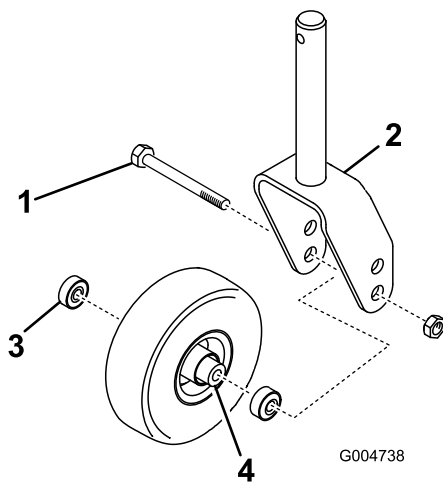

Figure 28
1. Remove the locknut from the bolt holding the castor wheel assembly between the castor fork (Figure 28). Grasp the castor wheel and slide the bolt out of the fork or pivot arm.
2. Remove the bearing from the wheel hub and allow the bearing spacer to fall out (Figure 28). Remove the bearing from the opposite side of the wheel hub.